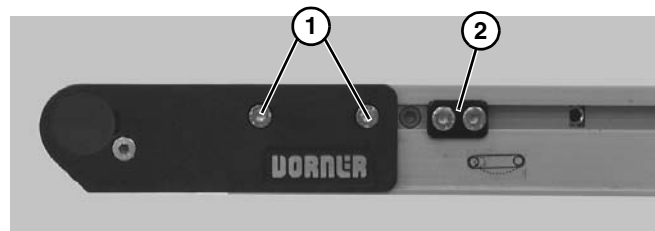

**Figure 21**
2. Adjust head plate assembly so end of conveyor frame aligns with or between the head plate tensioning marks (**Figure 21, item 1 and 2**). Replace belt if proper tensioning can not be obtained while aligning the end of the conveyor frame with or between the tensioning marks. See NOTE.